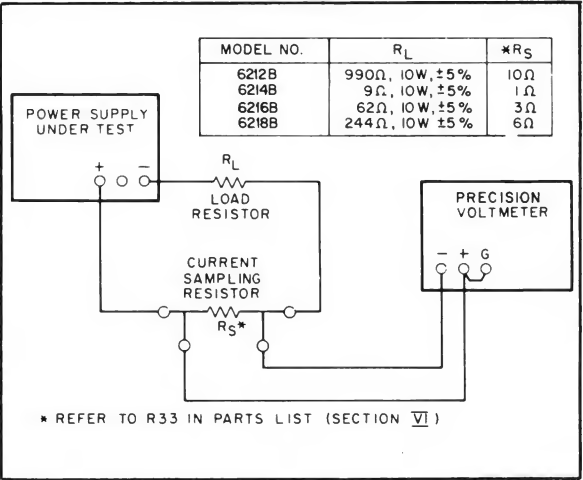

Figure 5-8. Constant Current, Test Setup
- a. Connect test setup shown in Figure 5-8.
- a. Utilize test setup shown in Figure 5-8.